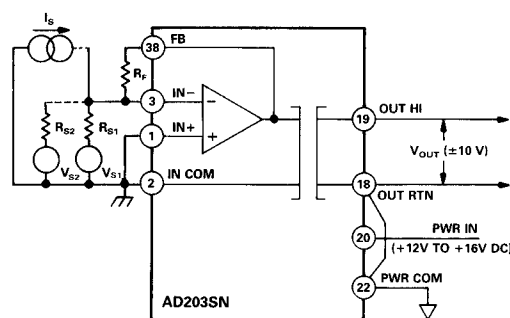

Figure 19. Input Configuration for Summing or Current Input
**Inverting, Summing or Current Input Configuration.** Figure 19 shows how the AD203SN can accommodate current inputs or sum currents or voltages.
The circuit of Figure 19 can also be used when the input signal is larger than the  $\pm 10$  V input range of the isolator. For example, suppose that in Figure 19 only  $V_{S1}$ ,  $R_{S1}$  and  $R_F$  are connected to the feedback, input and common terminals as shown by the solid lines in Figure 19. Now, a  $V_{S1}$  with a  $\pm 100$  V span can be accommodated with  $R_F = 20$  k $\Omega$  and a total  $R_{S1} = 200$  k $\Omega$ .